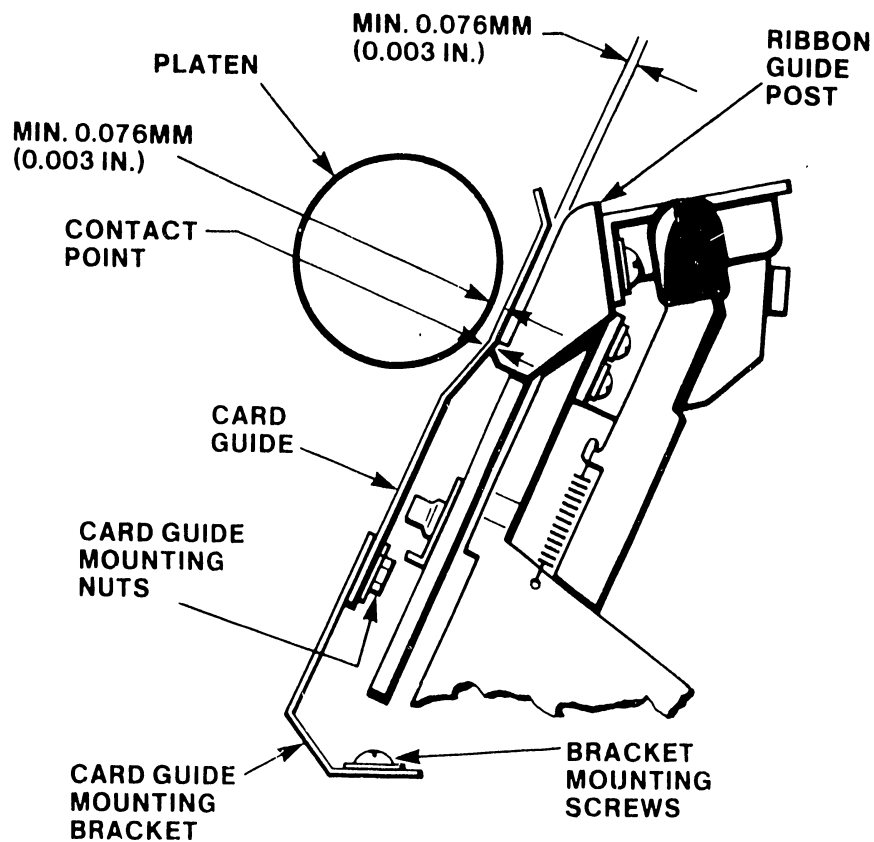
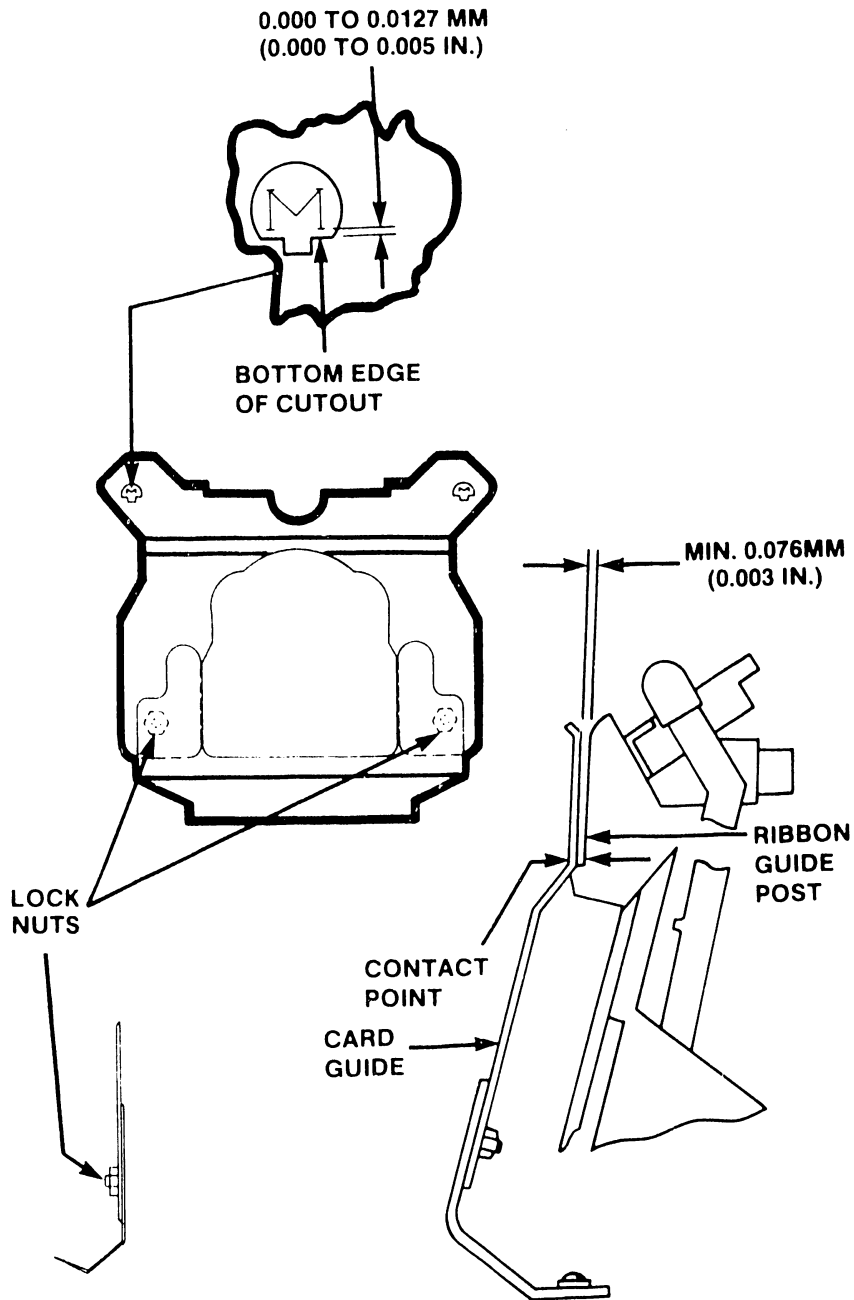

FIGURE 5-15 CARD GUIDE ALIGNMENT (INITIAL)
FIGURE 5-17 CARD GUIDE ALIGNMENT (FINAL)
5.13 CARD GUIDE ALIGNMENT (INITIAL SETUP) (Figure 5-15)
6. Raise or lower card guide to align contact point as shown in Figure 5-15.
2. If the printer has been modified for use of Diagnostic Display Board WLI # 190-0739, move the carriage by hand to check the character placement in the cutouts of the card guide. The bottom line of the character must be even with or slightly above the bottom edge of the cutouts in the card guide as shown in Figure 5-17 (within 0.000 to 0.005 in). If the bottom edge of the characters are not within tolerance, perform the adjustment procedure contained in paragraph 5.15.2.
- a. Remove the 4.0 A (SB) fuse from the 7364A PCB using an insulated tool.
- b. Move the carriage by hand to check the character placement in the cutouts of the card guide. The bottom line of the character must be even with or slightly above the bottom edge of the cutouts in the card guide as shown in Figure 5-17 (within 0.000 to 0.005 in). If the bottom edge of the characters are not within tolerance, perform the adjustment procedure contained in paragraph 5.15.2.
2. Loosen the two card guide mounting nuts (Figure 5-15).
3. Align the card guide as shown in Figure 5-17.
4. While holding the card guide in its adjusted position (Figure 5-17), tighten the two card guide mounting nuts (Figure 5-15).
The bend in card guide (see Figure 5-15) must rest on the projections of the ribbon guide posts. Should the projections be severely worn it will be necessary to replace the carriage assembly (WL # 279-5127).